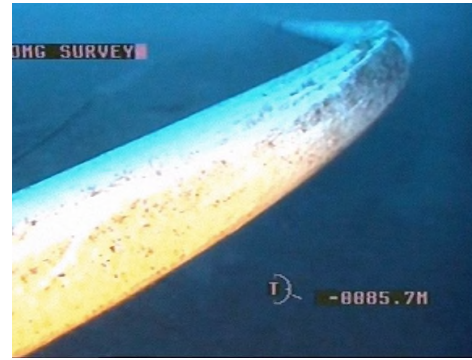

Figure 5. A subsea pipeline dragged by anchor
- Advanced finite element analyses of the Corroded and un-corroded subsea pipelines/risers under extreme loading condition such as cyclic loading (free-span), permanent deformation (lateral or upheaval buckling), third party damages (anchor drag, trawling/fishing activities, etc.) and low cycle fatigue loading during the start-up/shut-down. Figures 5 & 6 show a case of subsea pipeline dragged drastically with an anchor and the corresponding FE model developed by Z-Subsea advanced analysis team to assess the integrity of the pipeline for further safe operation